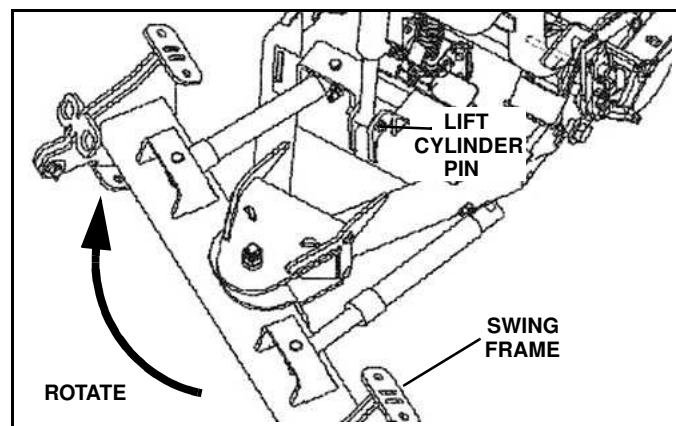

Figure 1-17
- c. Rotate the swing frame to the right as shown. (See Figure 1-17).
- d. Remove the cotter pin securing the lift cylinder lower pin and discard. Remove the lift cylinder pin. (See Figure 1-17).